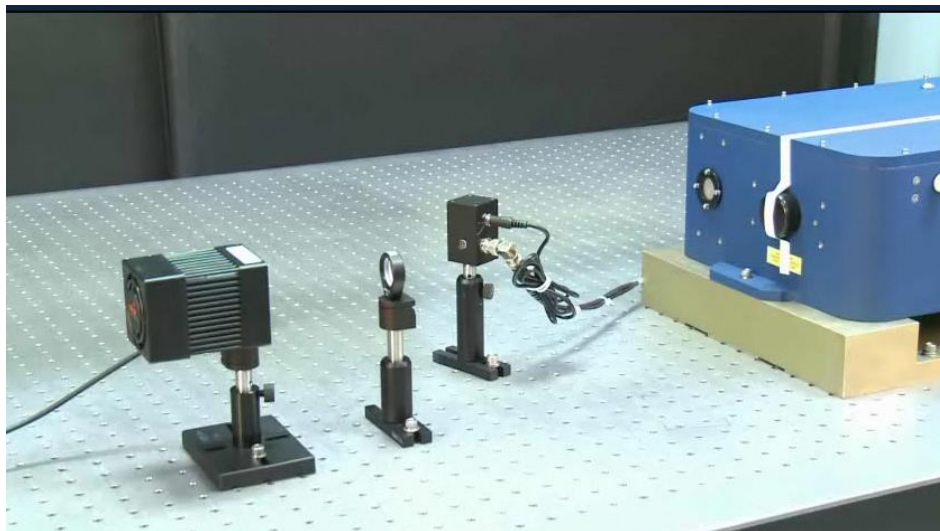

Figure 4-2. Basic setup for the laser power test
A power meter, with the ability to handle a minimum of 30 W, should be installed approximately 1.5 feet away from the laser in the direction of the laser output beam. To protect the power meter, a negative lens ($f=-100$ mm) with an anti-reflective (AR) coating at 532 nm should be installed in front of the power meter as shown in Figure 4-2 below. If a negative lens is not available, the power meter should be at least 2 m away from the laser so that the beam size is larger and the power density is below the damage threshold of the power meter. A pulse detector should be positioned as shown in Figure 4-2 to verify the pulse characteristics of the laser.